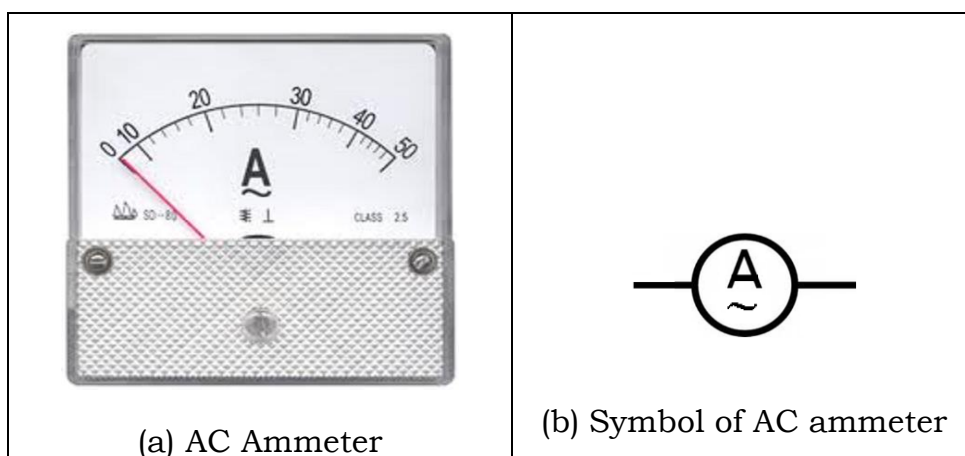

Fig. 3.3
**AC Ammeter:** AC Ammeter is used to measure AC current. A typical AC ammeter and its symbols are shown in fig. 3.3 (a) and (b) respectively.